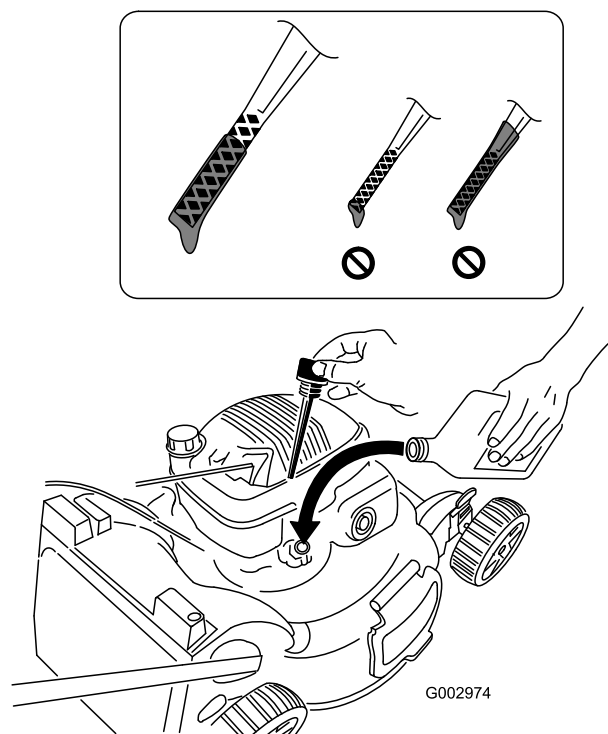

Figure 5
1. Remove the dipstick (Figure 5).
2. **Slowly** pour oil into the oil fill tube, periodically checking the level with the dipstick, until the dipstick indicates that the engine is full as illustrated in Figure 5. **Do not overfill.** (Max. fill: 0.58 quart (0.55 l), type: SAE 30W detergent oil with an API service classification of SH, SJ, SL, or higher.)